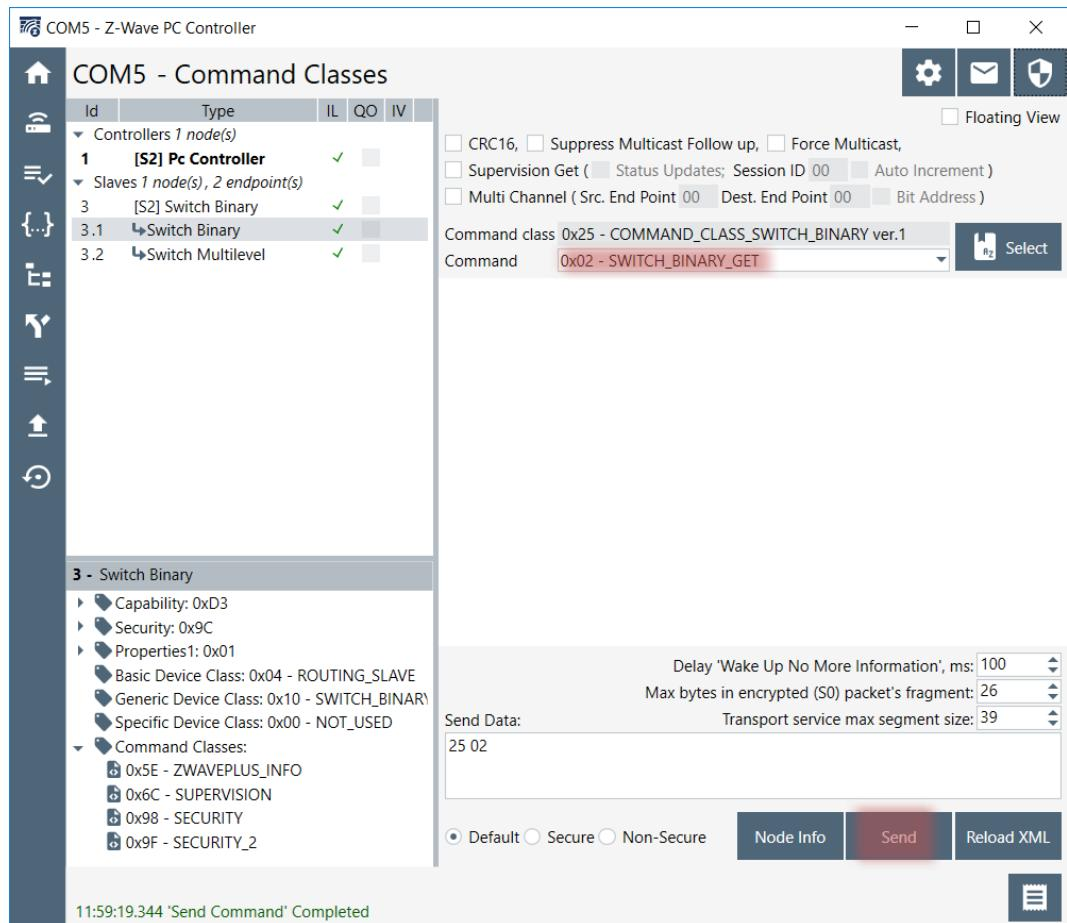

Figure 9: PC Controller, Command Classes View—Send Switch Get Command
- 7) Send a Get Command to verify the switch was set accordingly. Refer to Figure 9.